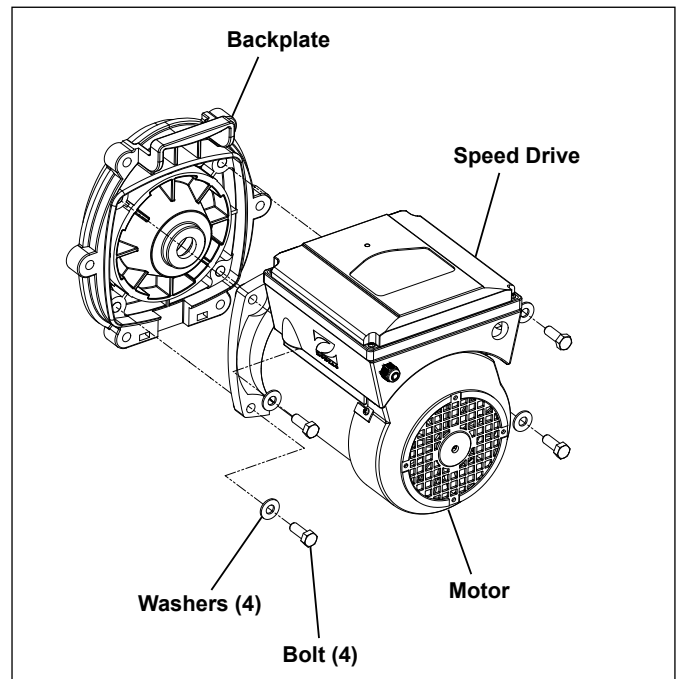

Figure 13. Backplate Assembly
2. Note the alignment of the backplate to the motor, as shown in Figure 13 . Place the backplate motor assembly o-ring side down, unscrew the four 9/16" screws, and remove the motor.
4. Replace the four (4) bolts and washers holding the backplate to the motor and torque to 21 Nm. See Figure 13 .